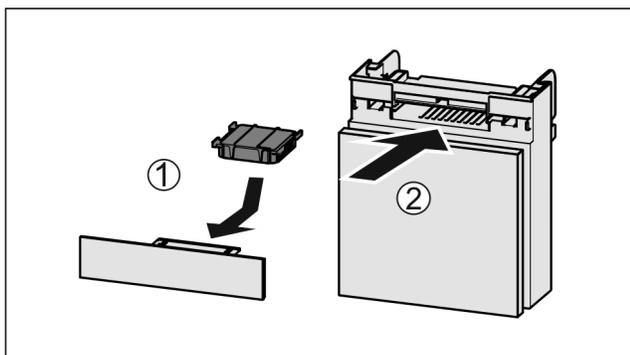

Fig. 69
- ▶ Insert the carbon filter as shown in the diagram Fig. 69 (1).
- ▶ Push the compartment in Fig. 69 (2).